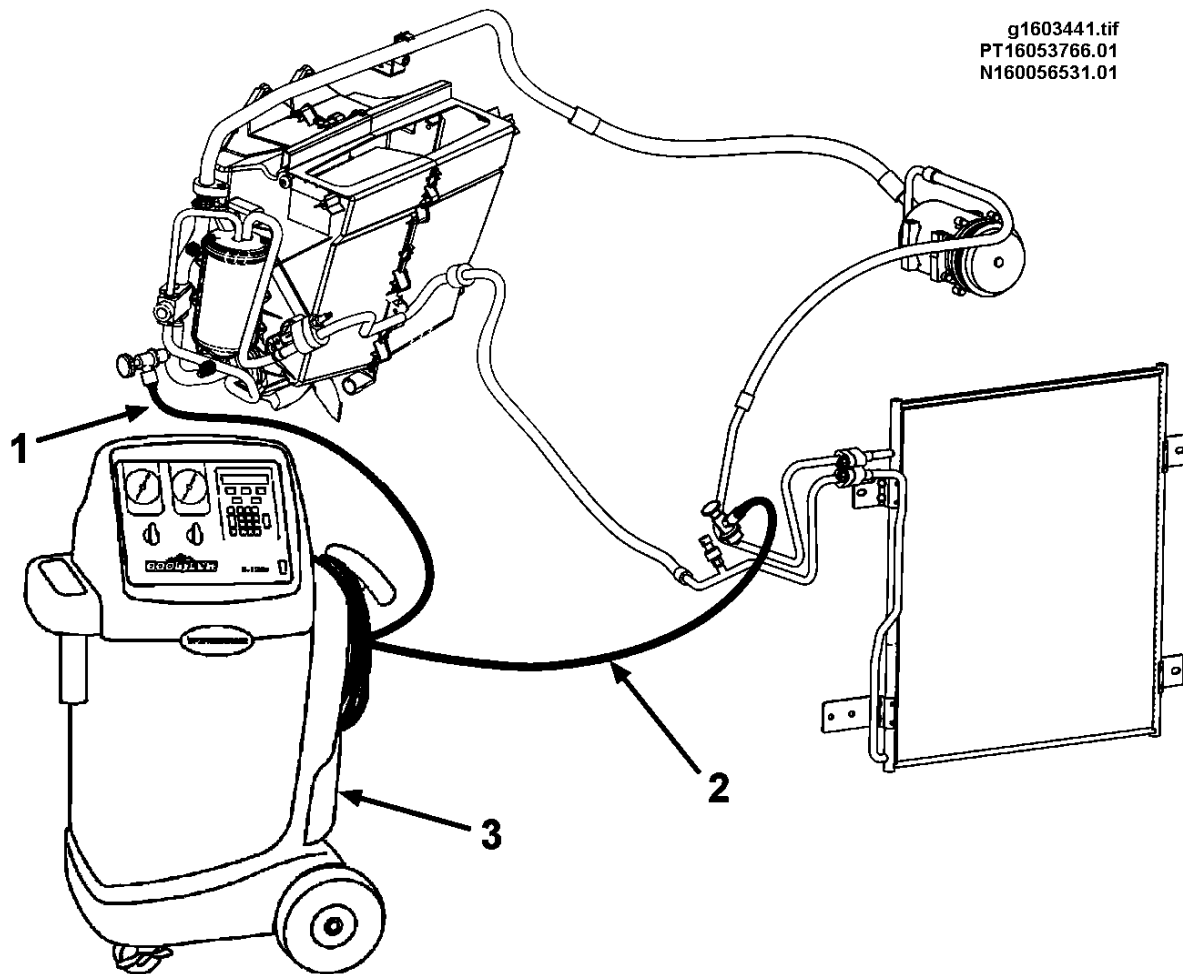

Figure 41 Typical Equipment Hookup for Servicing the System
Refer to Figure 41.
4. Connect the recovery station to the system as follows (refer to Figure 41):